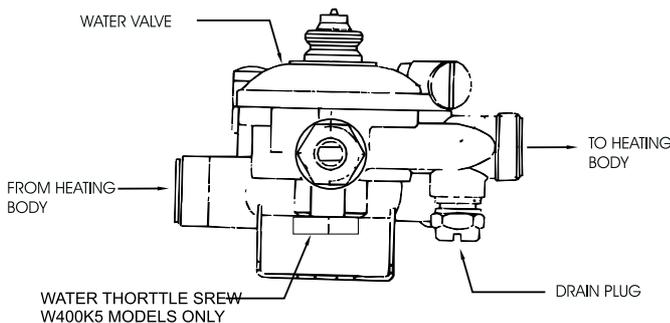

Figure 8
- Make sure drain is closed, see figure 8, below.
These models do not have a manual flow selector knob. Flow can be regulated using the water throttle screw on the bottom of the water control valve (see fig.8).